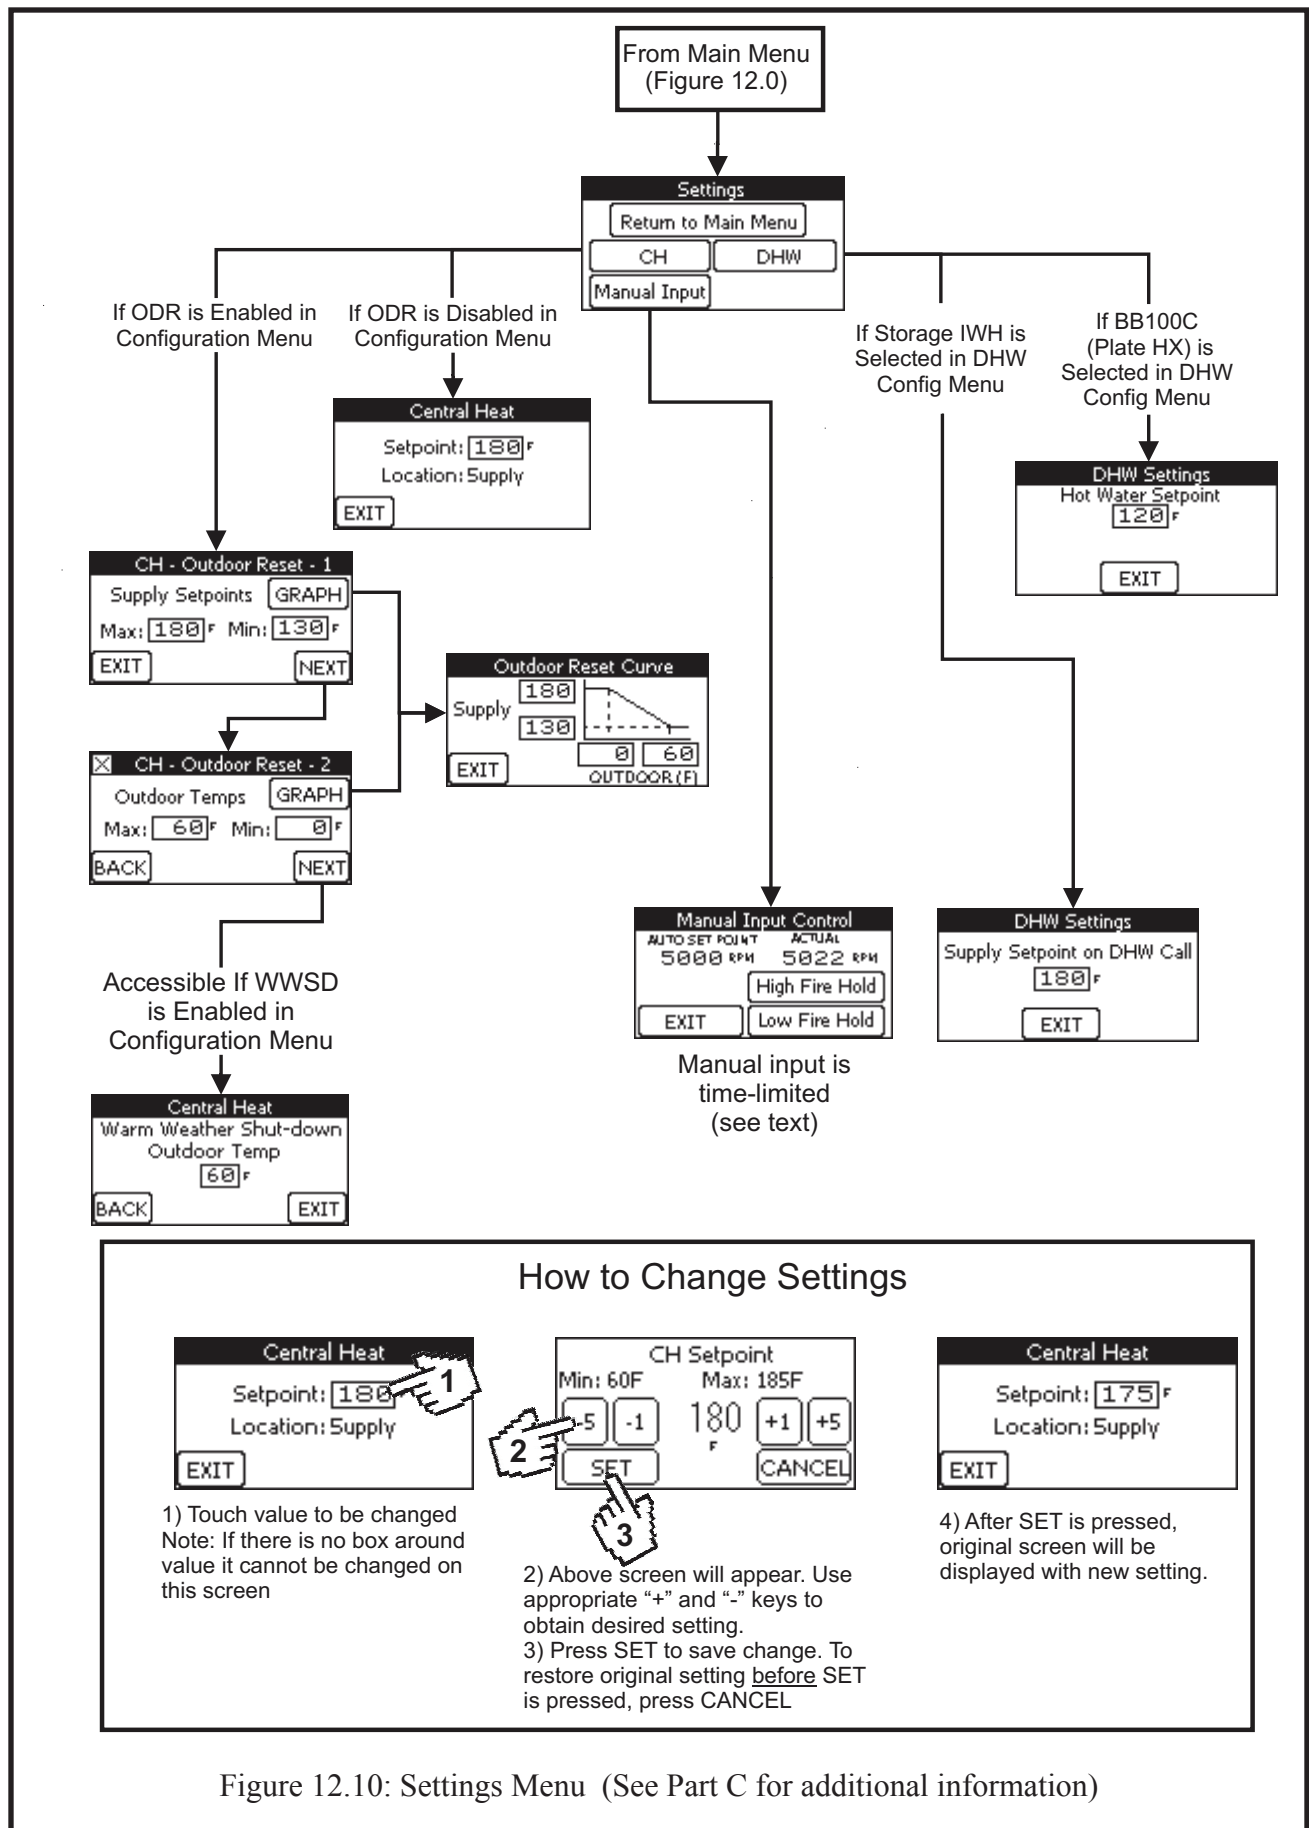

Figure 12.10: Settings Menu (See Part C for additional information)
Use the Settings Menu to change temperature setpoints and to temporarily lock the boiler in high or low fire. On a new installation configure the boiler first, then go to the Settings Menu. A map of the Settings Menu structure is shown in Figure 12.10. To change settings:
- a) If outdoor reset is disabled, only one CH setpoint exists. The boiler will always attempt to maintain this temperature during a call for CH. To change the setting, touch the button containing the current setting. Adjust the temperature using the “+” and “-” arrows shown and press SET to save the change (also see “How to Change Settings” in Figure 12.10).
4) Manual Input - From the settings menu, press the MANUAL INPUT button to temporarily lock the boiler into either high or low fire (Figure 12.10). This menu is normally used during the performance of combustion tests. Restore automatic operation by pressing the AUTO FIRE Button. If AUTO FIRE is not pressed, the boiler will remain in manual input until one the following occurs: